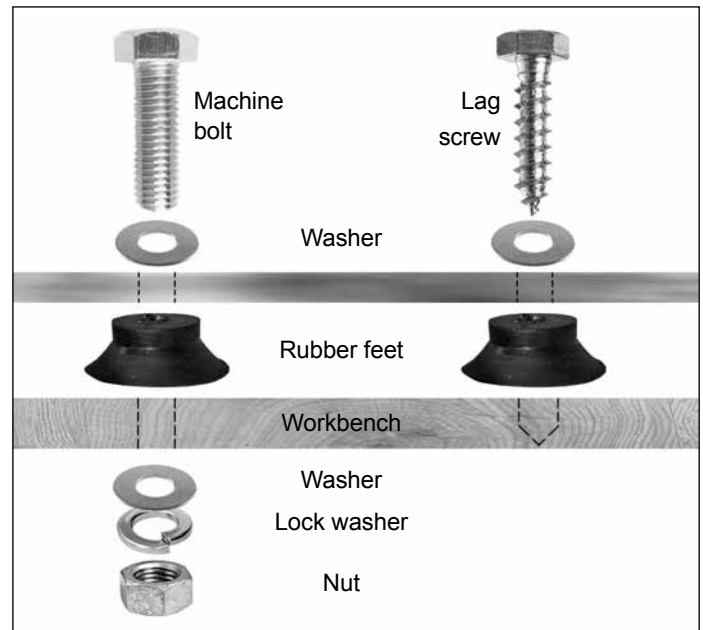

Figure 15
- Use the four holes that are securing the rubber feet. The bolts will have to be removed and replaced with other fasteners to go through the sander's base and feet. See figure 15 on the previous page for illustrations of each method.
6. Using long bolts, washers, lock-washers and nuts; or lag bolts; (fasteners not supplied), secure the sander to the workbench as shown in figure 15.